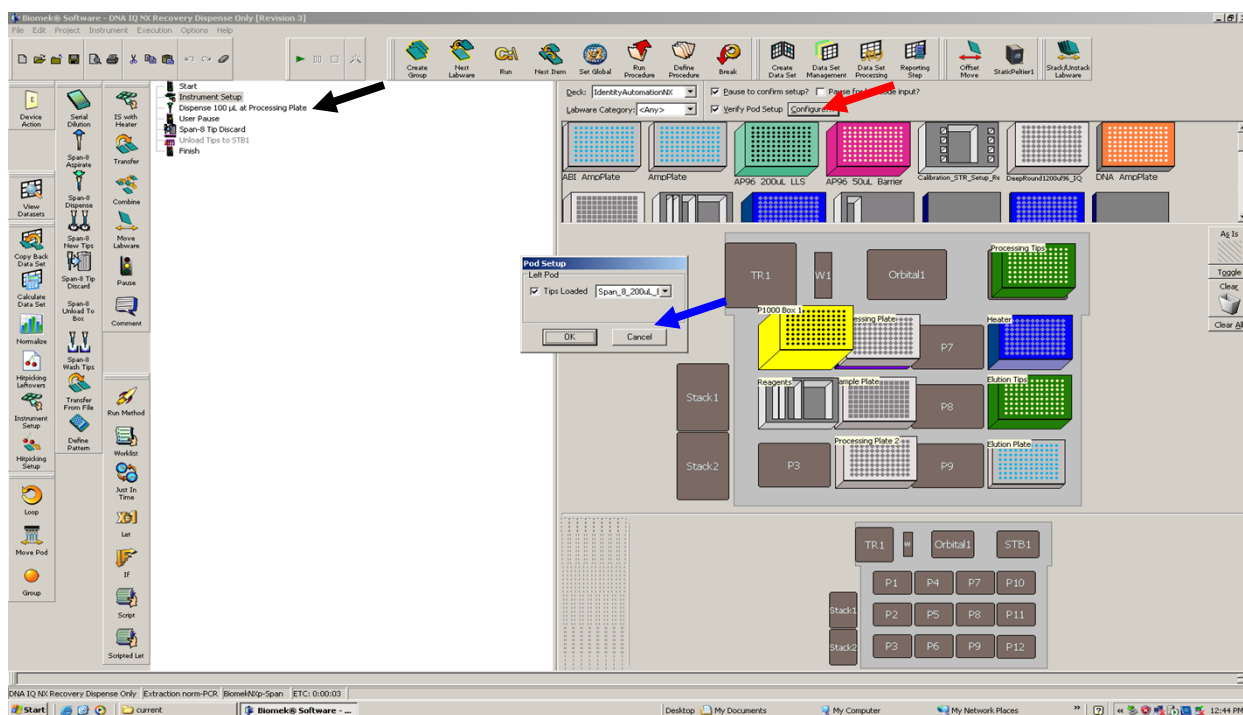

Figure 1. Shows the steps involved in selecting the tip type for the DNA IQ NX Recovery Dispense Only method.
1.1.2.1 Click on the “Instrument Setup” line of the method (shown in Figure 1, black arrow).
1.1.2.2 Press the “Configure” button (shown in Figure 1, red arrow).
1.1.2.3 Select the appropriate tip type from the pull down menu (shown in Figure 1, blue arrow).